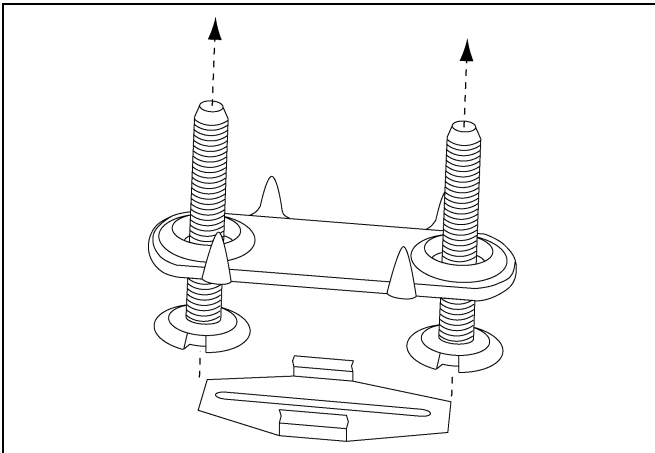

Figure 4X
3. To assemble bottom plate insert two (2) bolts and attach clip. *(See Figure 4X.)*